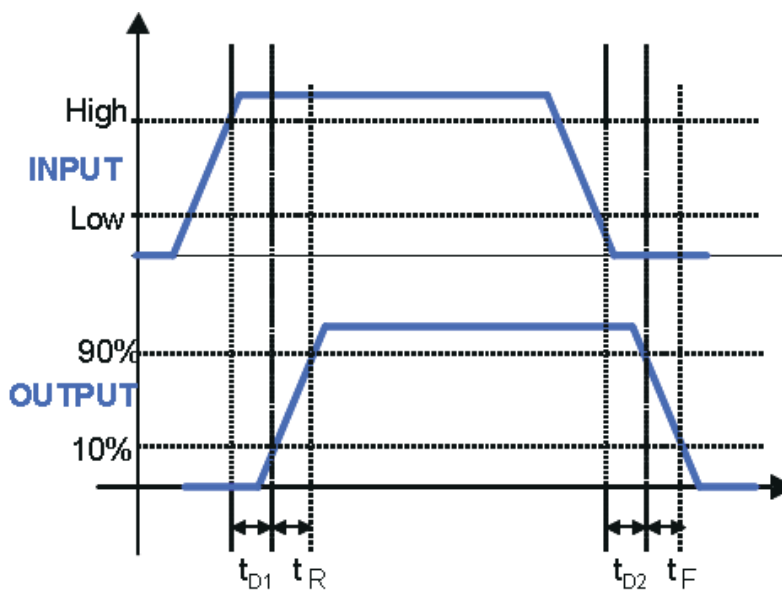

図 5-1. Timing Diagram (OUTH tied to OUTL)(Input = IN, Output = OUT (EN = VDD), or Input = EN, Output = OUT (IN = VDD))
(1) Ensured by design and tested during characterization. Not production tested.
(2) See Figure 5-1.
(3) Output pull-up resistance here is a DC measurement that measures resistance of PMOS structure only, not N-channel structure. The effective dynamic pull-up resistance is 3 x ROL.